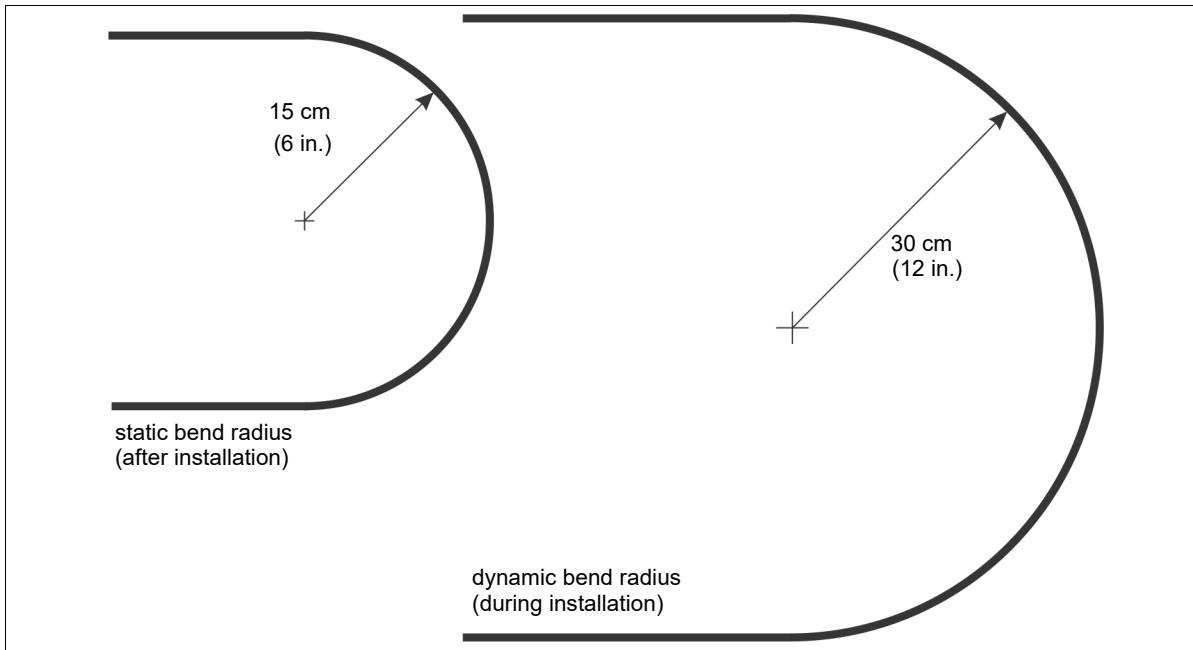

Figure 66: Smallest allowable bend radius (sensor cable)
- smallest allowable bend radius, armored sensor cable: during installation (dynamic) 30 cm (12 in.); installed (static) 15 cm (6 in.) (see Figure 66: